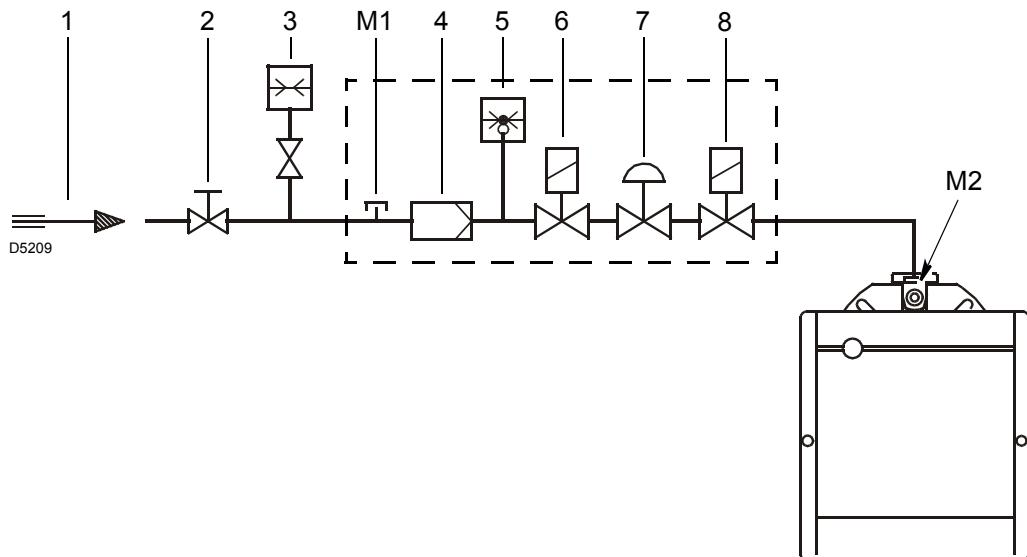

Fig. 14
Key (Fig. 14)
To calculate the required gas pressure at test point M2)(Fig. 14), with the maximum modulating output at which you want the burner to operate having been fixed:
- Read on the right, column 1, the pressure at the socket M2)(Fig. 14).
pressure required at the test point M2)(Fig. 14).
Gas pressure measured at test point M2)(Fig. 14), with:
- subtract the pressure in the combustion chamber from the pressure of the gas at test point M2)(Fig. 14).
Pressure of the gas at test point M2)(Fig. 14) = 12.2 mbar